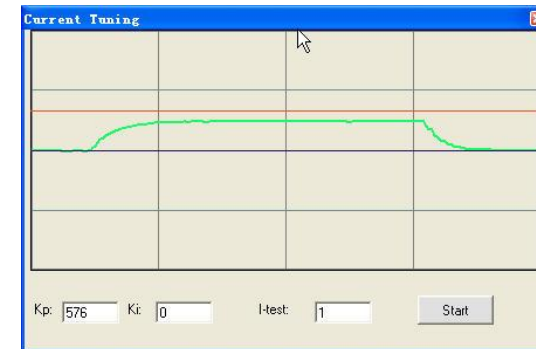

Figure 23: Kp=2604, Ki=0 (poor performances)
**Kp: Proportional Gain.** Proportional Gain determines the response of the Driver to current setting command. Low Proportional Gain provides a stable system (doesn’t oscillate), has low stiffness, and large current error, causing poor performances in tracking current setting command in each step like Figure 23. Too large Proportional Gain values will cause oscillations and unstable systems.